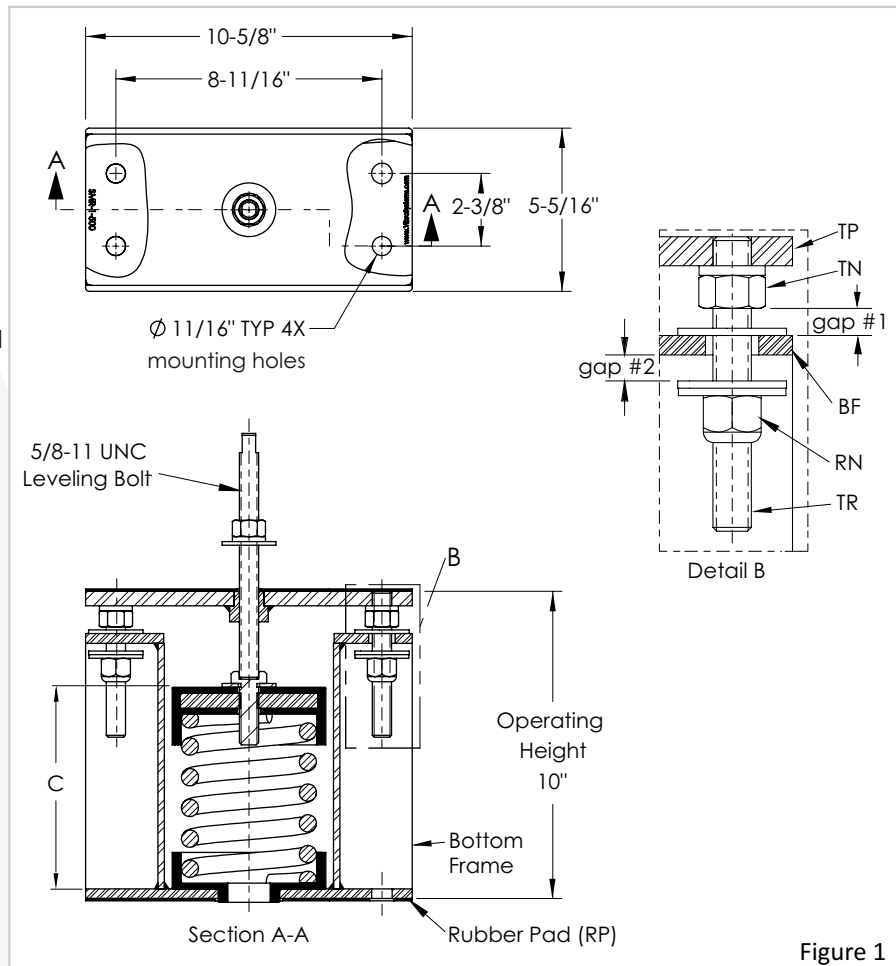

Figure 1
- 2) Secure each spring mount to the equipment support structure or concrete foundation using the four mounting holes on the bottom frame (BF). All bolts and anchor hardware must be a minimum of grade 5. If the engineering consulting agency or installation engineer recommends a higher grade of hardware, follow their recommendation. If spring mounts are welded in position, remove the rubber pad (RP) before welding (see figure 1).
- 3) Use a forklift, crane, or any other certified lifting machine to raise the equipment to be installed. Slowly lower the equipment on top of the spring mounts' top plates (TP) and ensure that the equipment's mounting holes are perfectly aligned with the spring mount's top plate's (TP) center threaded hole (see figure 1).
- 4) When the equipment is resting on top of all the spring mounts, the top plate nuts (TN) will rest on top of the bottom frame (BF), and gap #1 will disappear. Loosen all restraining nuts (RN) to the end of the threaded rods (TR) to allow leveling (see figure 1).
- 6) Start leveling by turning all leveling bolts (LB) until gap #1 appears (approximately 3/16" to 1/4"), as shown in Figure 1.
- 7) Under rated load, the dimension 'C' should be approximately 6 inches, as shown in Figure 1
- 10) Adjust and lock the restraining nuts (RN) together, leaving a gap #2 of 3/16" to 1/4" clearance, as shown in Figure 1.
- 11) Every spring mount **must** have clearances at both gap #1 and gap #2 after the installation is complete, as detailed in Figure 1, detail B.